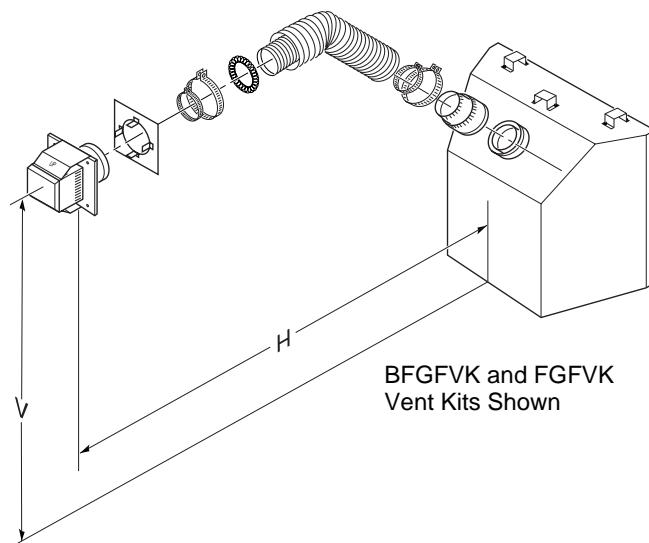

Figure 18 - Horizontal Termination Using Flexible Venting
See information in Figure 18 for Vertical(V) and Horizontal(H) maximums and minimums. The same amounts apply for flexible venting.